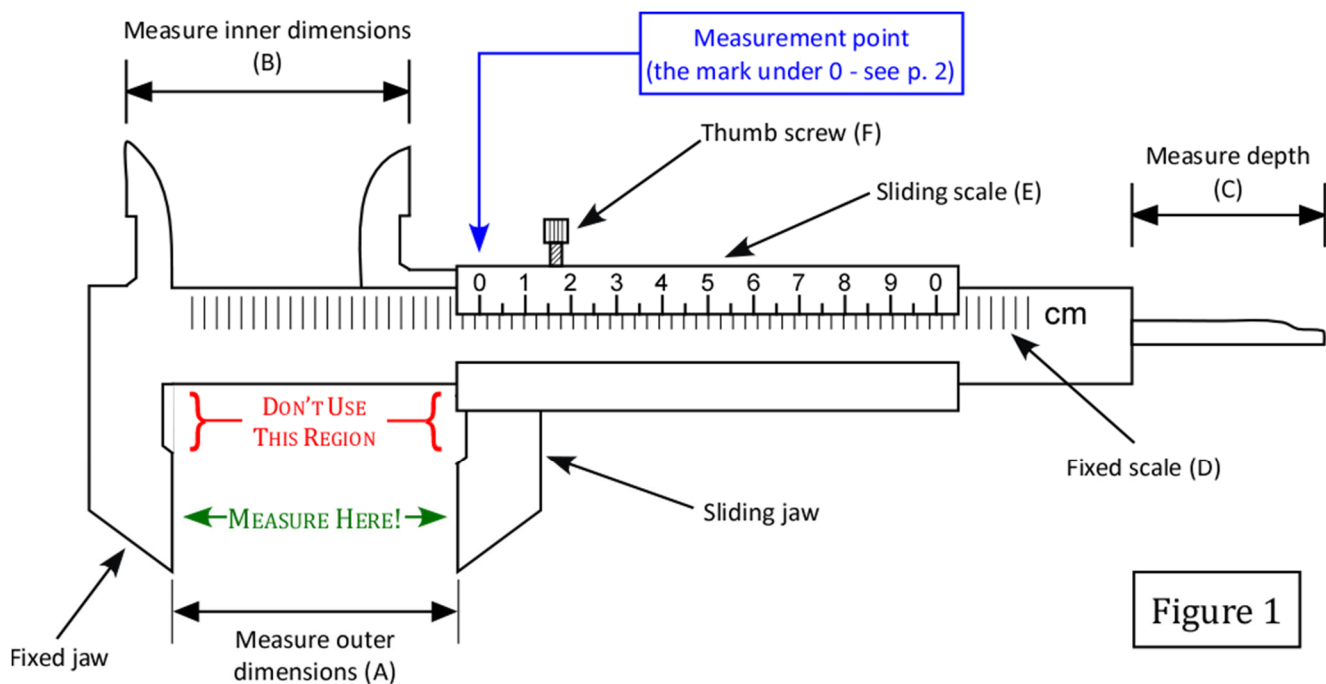
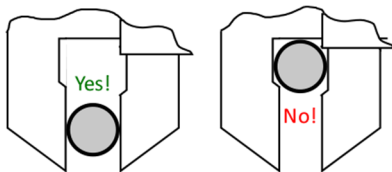
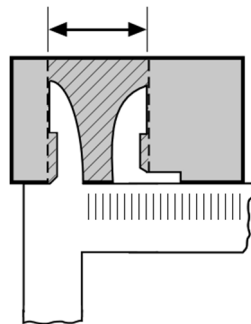
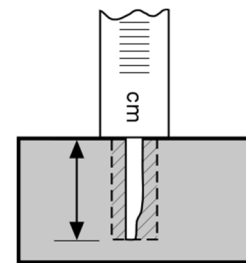

Figure 1
Figure 1a
Figure 1b
Figure 1c
Figure 1 below is a sketch of a typical vernier caliper, similar to the type you will use in this course. You will use the larger “jaws” (A) most frequently to measure outer dimensions, such as the width of a block or circular rod (Figure 1a). You can also use section (B) to measure inner dimensions, such as the diameter of a hole (Figure 1b), or section (C) to measure the depth of a hole (Figure 1c). The vernier scale is read the same in each case, no matter which portion of the caliper is used take your measurement: therefore, parts A, B and C give you the same length.
1. Loosen the thumb screw clamp (**F**), if necessary, and close the sliding jaw so that it fits snugly on the object to be measured. If the object is circular or spherical, make sure you're measuring at the widest point. When measuring outer dimensions, be sure to use the flat section of the caliper jaws; don't use the region marked in *Figure 1*. See *Figure 1a* for the proper placement of a small circular object